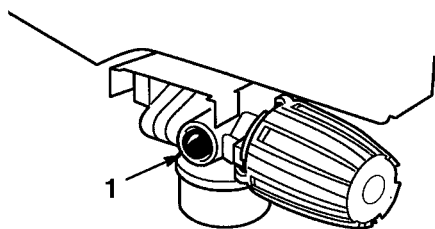

Figure 11
2. Push primer three (3) times (Fig. 11). Wait about two (2) seconds between each push.